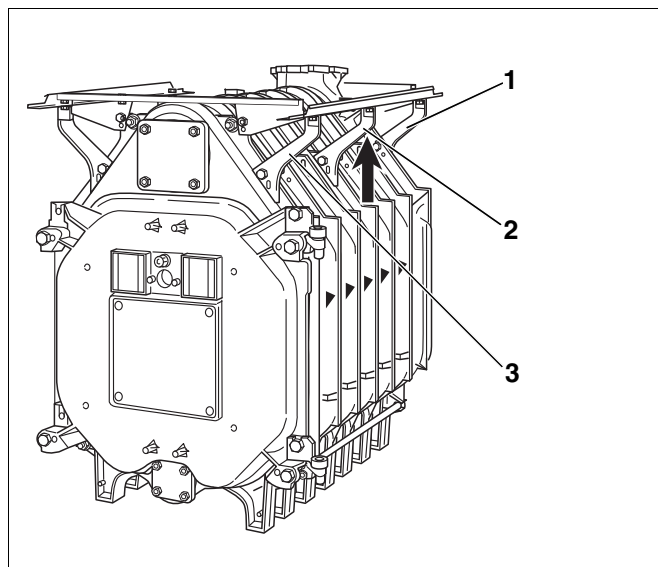

Fig. 40 Aligning the longitudinal rails
- ▶ Align the longitudinal rails, screw on the brackets at the front and/or rear section (Fig. 40, [1] and [3]) and fully tighten.
- ▶ Push the centre brackets (Fig. 40, [2]) against the longitudinal rails from below, then screw onto the boiler block and tighten.